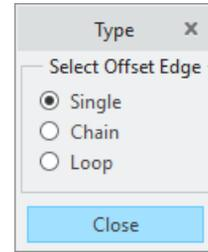

Figure 3-18 The **Type** dialog box
1. Choose the **Offset** tool; the **Type** dialog box will be displayed with the **Single** radio button selected by default, as shown in Figure 3-18. To create an offset of a single sketched entity, choose the **Single** radio button and then select the entity to be offset; the **Enter offset in the direction of the arrow [Quit]** edit box appears on the top of the drawing area. Also, an arrow is displayed on the selected entity. This arrow shows the direction in which the resulting entity will be created.